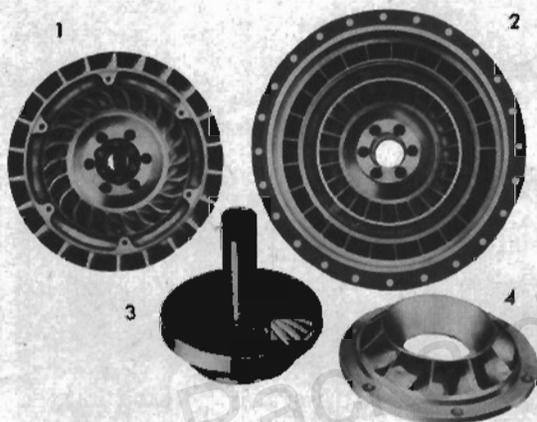
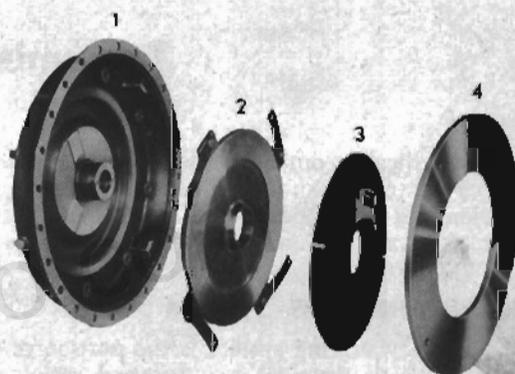

FIG. 243
FIG. 244
The torque converter consists of: a pump, (driving member) (2, Fig. 243) connected to the engine crankshaft; a first and second turbines (driven members) (1 and 4) splined to the transmission input shaft; a reactor (reaction member) (3) connected to the pump body through a freewheel unit; a direct drive clutch housing (1, Fig. 244) which contains a clutch piston (2), driven plate (3), and a backing plate (4).